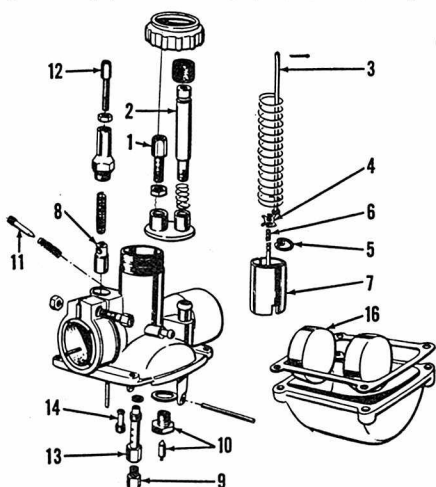

Fig. S2-1—Exploded view of Mikuni VM carburetor used.
**CARBURETOR.** A Mikuni VM 20SC carburetor is located on the right side of the engine. Initial setting for the idle mixture needle (11—Fig. S2-1) is 1½ turns out. Turning the idle mixture needle out leans the mixture. Idle speed is changed by turning adjuster (2). Standard size of main jet